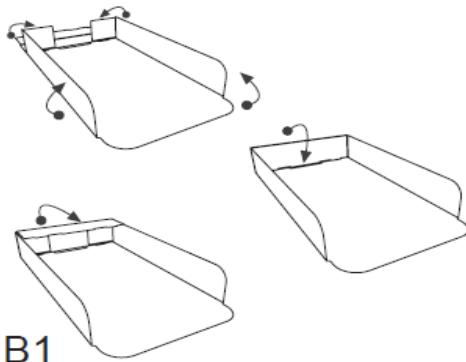

Figure 5-44: LIAISON® EASY Waste assembling instruction step B1
7. Following the marked crease, fold upwards the two side flaps and fold internally the two extremities; fold the flap against the two extremities and fold it again down in order to insert it in the corresponding holes (see Figure 5-44 step B1).